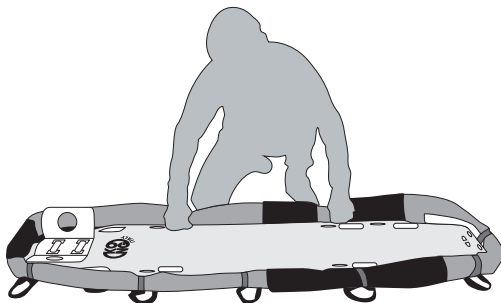
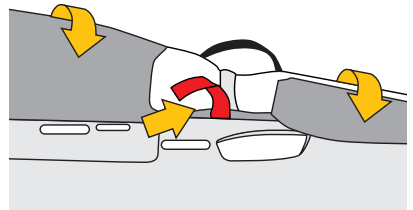

Fig.36
Fig.37
- d) roll up the cover parts of the rescue bag, as shown in fig. 36, and fix them with the special velcro straps (figs. 37, 38 and 39),